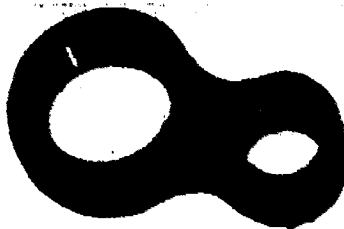

Figure 40. Hook Saddle Component
14. Remove bobbin case opener lever link (figure 40).